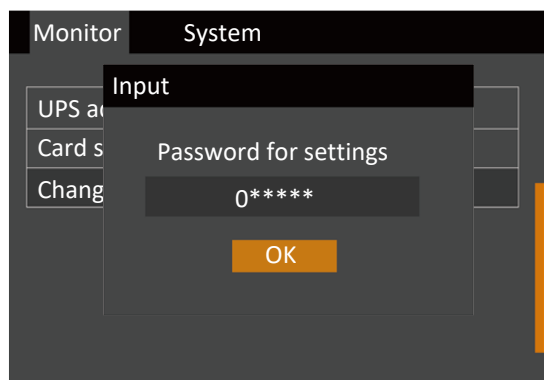

Figure 5-21 Inputting Password
2. Press the key, the interface shown in Figure 5-21 is displayed.